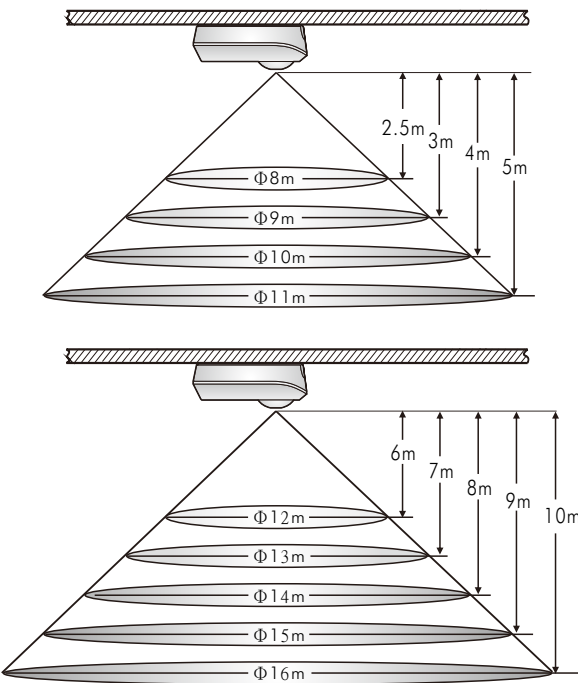

FIG.2
- 3.1.1 It is recommended to install the detector at the height of 10m, and the detection range can reach up to the diameter of 16m. (See FIG.2).